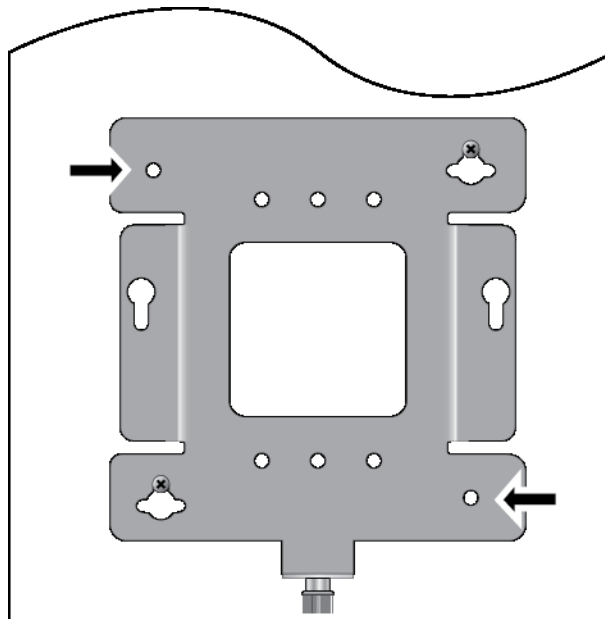

Figure 20. Pre-Drill Holes on Wall Mounting Bracket
8. To secure the mounting bracket, pre-drill holes through the two bracket mounting holes opposite the key-hole slots. Refer to Figure 20.